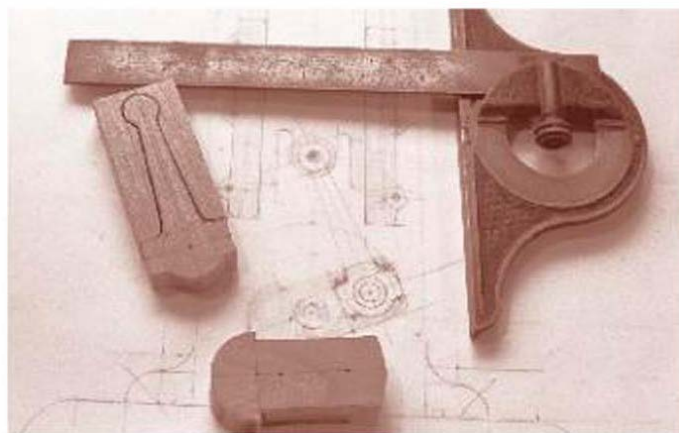

FIGURE 6-7
- 2** One piece at a time, draw the lines of the design, fix the position of the various pivot holes, and fret out the profiles on the scroll saw (Fig 6-7).